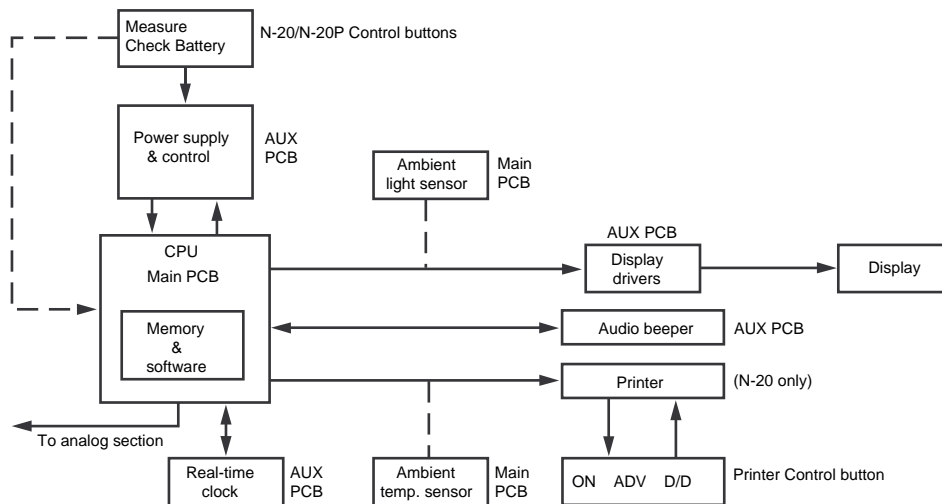

Figure 9-4: Digital Circuitry Block Diagram
9.6.1 Digital Circuitry Block Diagram (Figure 9-4)
Figure 9-4 shows the N-20/N-20P hardware and circuits, which include the CPU and system memory, the power supply and power control circuitry, user controls, display and ambient light sensors, audio output, thermal printer (N-20P only) and ambient temperature sensor, and the real-time clock.